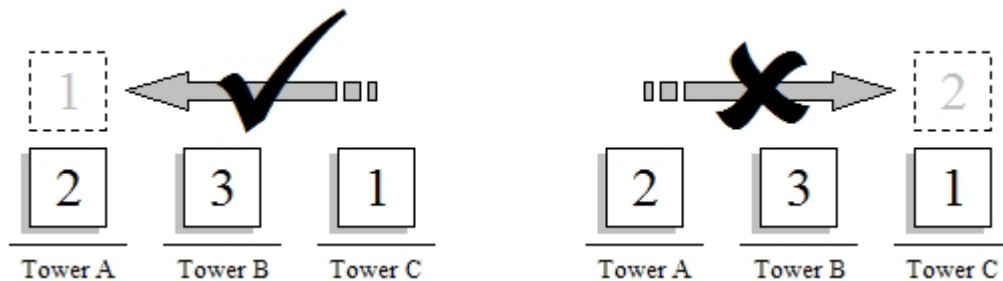

Figure 1.2: Examples of a legal and an illegal move.
2. You may not place a block on top of a lower-numbered block, as illustrated in Figure 1.2.